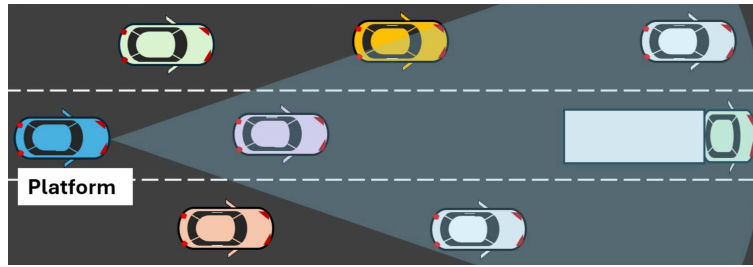

Figure 2: Driving scenario with a platform with front-facing radar.
- ii. Figure 2 illustrates a scenario of an ego-car (platform) installed with a front-facing FMCW radar. The radar detects the range and range rate of the cars ahead to make driving decisions (e.g., brake, lane change, etc.). FMCW radar usually gives angle information with multiple antennas in an array. In our project, for simplicity, only a single antenna is considered, and only the range and range rate of the targets can be obtained.
Note that Figure 2 provides a general idea of the scenario and does not accurately describe the case that you will be working on. Every group have a unique data set representing different scenarios.